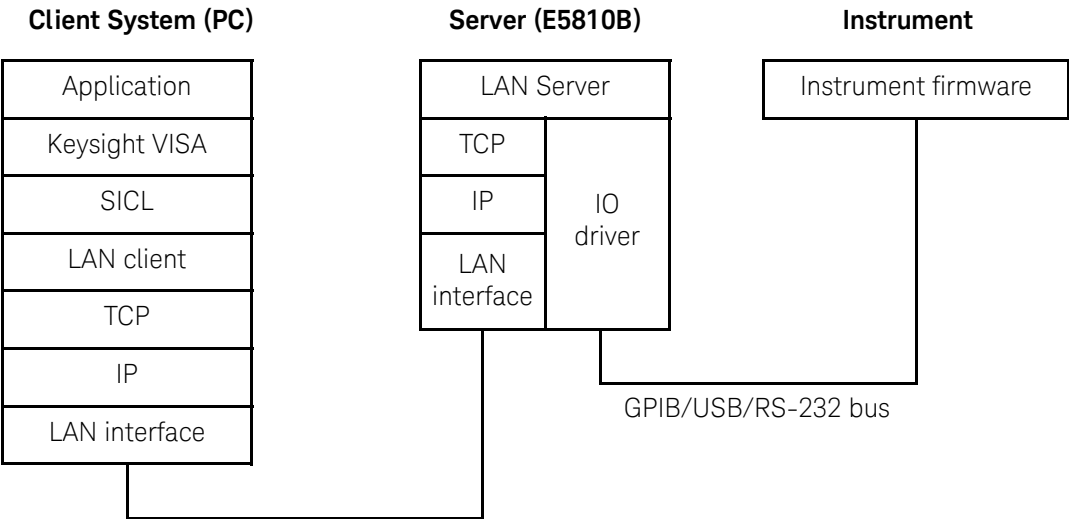

Figure 1-6 Client system architecture
The VISA LAN client software, and TCP/IP LAN software is needed on the client system (PC) to access the E5810B as shown in Figure 1-6. The E5810B consists of the LAN server and TCP/IP LAN firmware, so that the E5810B can perform as the LAN server.